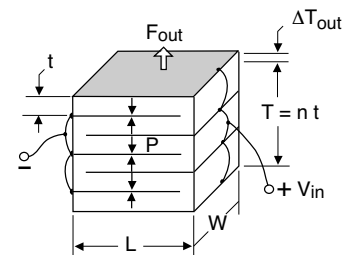

Figure-5. Stack Motor
**STACK MOTORS:** The co-fired stack represented in Figure-5 is a practical way to assemble and wire a large number of piezo layers into one monolithic structure. The tiny motions of each layer contribute to the overall displacement. Stack motion on the order of microns to tens of microns, and force from hundreds to thousands of Newtons is typical.